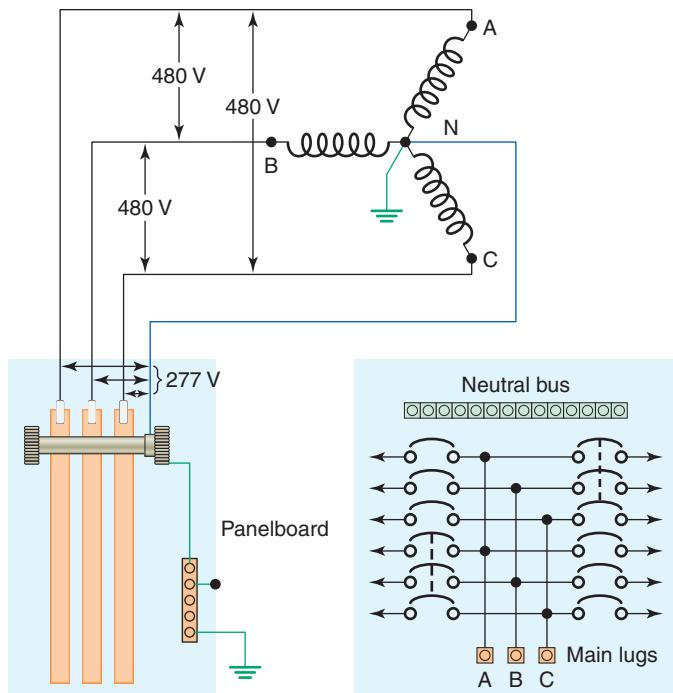

Figure 3-11 Wiring for a 277/480 V, three-phase, four-wire panelboard.
Figure 3-11 shows the typical internal wiring for a 277/480 V, three-phase, four-wire panelboard equipped with circuit breakers. This popular system used in industrial and commercial installations is capable of supplying both three-phase and single-phase loads. From neutral (N) to any hot line, 277 V single-phase for fluorescent lighting can be obtained. Across the three hot lines (A-B-C), 480 V three-phase is present for supplying motors.